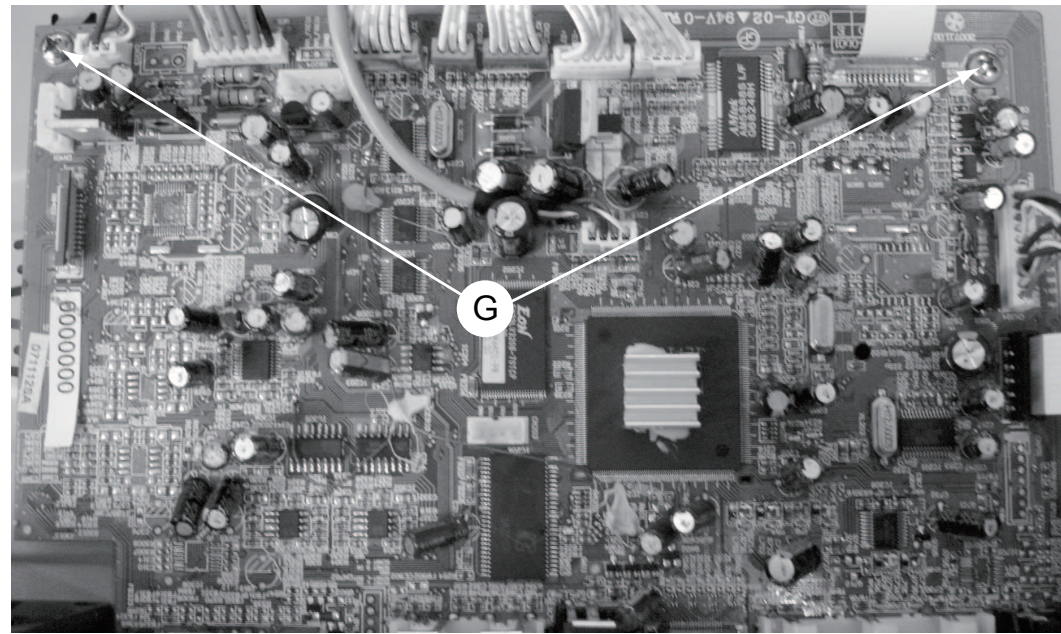

Figure 10
- 1) Loosen 2 screws "G" on the top of main board as shown in figure10